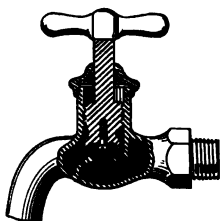

FIG. 66. — Cross section of common faucet.
**74. Hydrants and faucets.** The only parts of this great system of water pipes which we ordinarily see are the *hydrants* on the edge of our sidewalks, and the *taps* or *faucets* at our sinks and bathtubs. These are merely valves for opening and closing the pipes. The internal construction of the ordinary tap is shown in figure 66. The handle operates a screw which forces a disk, faced with a fiber washer, against